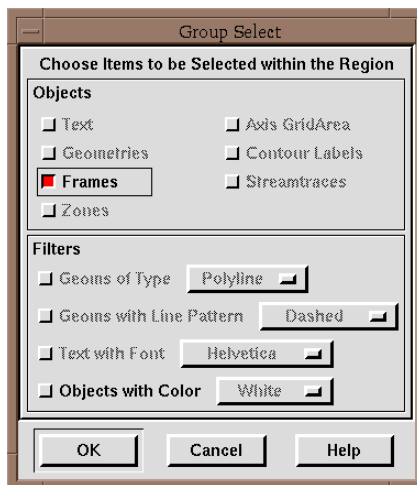

Figure 2-21. The Group Select dialog.
4. Release the mouse button. The Group Select dialog appears, as shown in Figure 2-21.